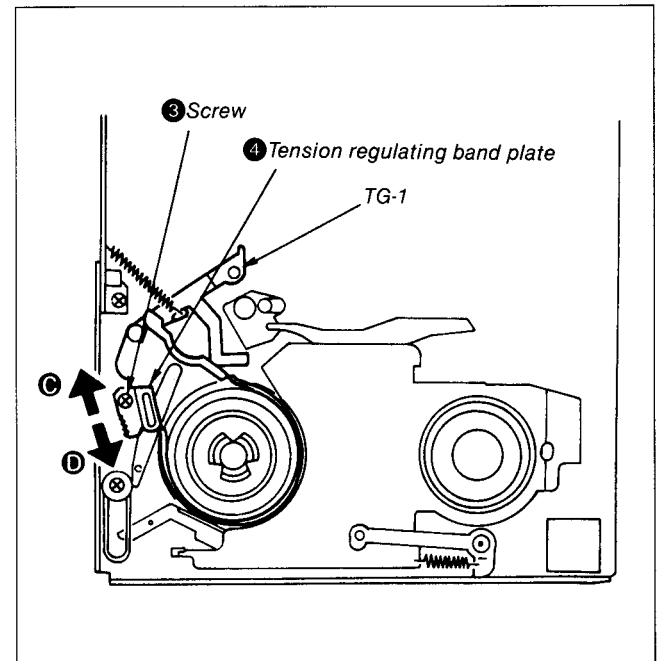

Fig. 8-43.
5) If TG-1 arm assembly **1** is within the inner side than the specified position, shift the tension regulating band plate **4** slightly in the direction of arrow **C**. If it is in the outer side, shift it slightly in the direction of arrow **D** and secure it with screw **3**. (See Fig. 8-43)